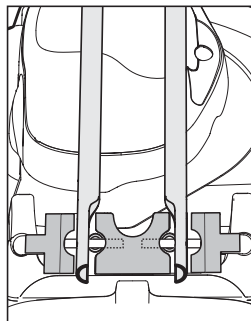

Fig 2.
4. Replace the outer mating pieces on each side and partly tighten into place with fastening knobs, but do not fully tighten yet (see fig 2).
(Fig. 2) 2 stroke models, lever cap off using screw driver in slot in side of filter body.